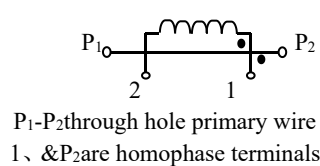

Fig 2
- ② The coil diagram is shown in Figure 2: